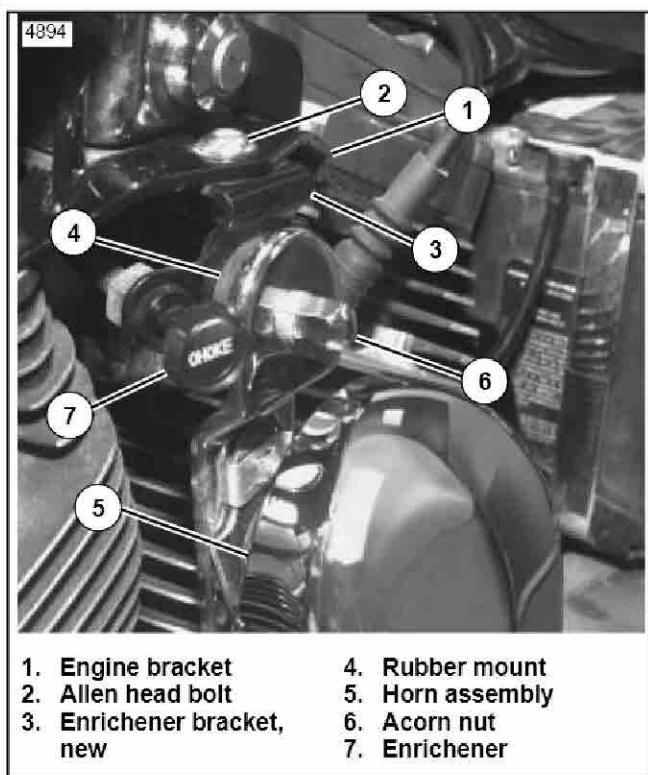

Figure 3. Horn Assembly Installation - 1992 - 1994 Models
6. See Figure 3. Loosen ignition switch housing nut on underside of engine bracket (1). Remove allen head bolt (2) and existing enricher bracket (not shown) from top of engine bracket (1).
7. Install new enricher bracket (3) from kit (in same location as original) using new allen head bolt (2) from kit. Tighten to 6-120 in-lbs (6.7-13.5 N-M.)